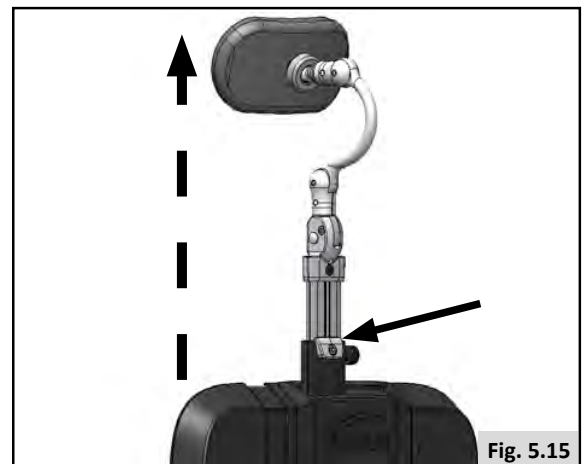

Fig. 5.15
- The headrest height is changed by pushing the set stop and sliding the headrest to the desired height (Fig. 5.15).